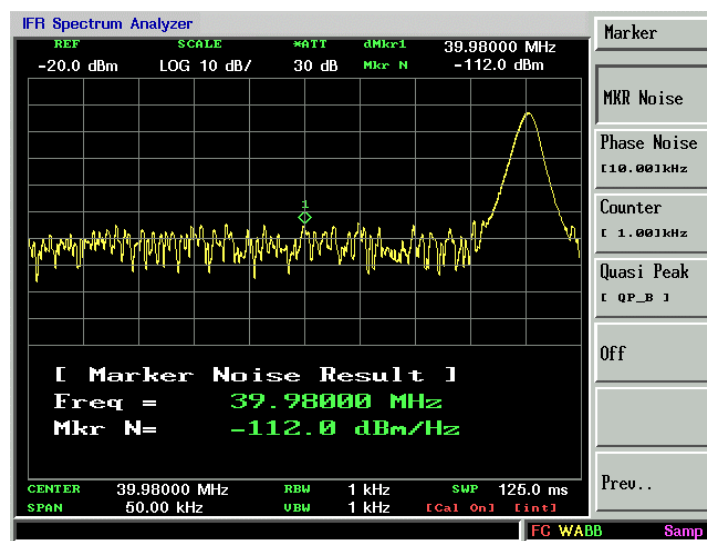

Figure 2-21. Activating the Noise Marker function
5. Activate the noise marker by pressing **MKR**, *More.., Function.., MKR Noise*. Note that the display detection has changed to sample, the marker floats between the maximum and the minimum of the noise. The marker readout is in dBm or dBm per bandwidth. See Figure 2-21. For noise power in a different bandwidth, add $10 \times \log(BW)$. For example, for noise power in a 1 kHz bandwidth, add $10 \times \log(1000)$ or 30dB to the noise marker value.